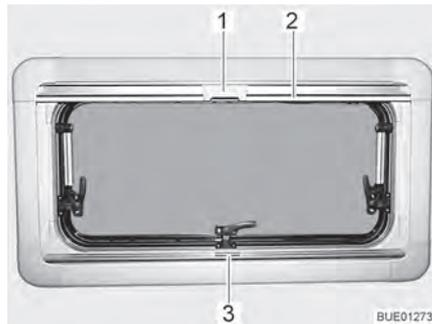
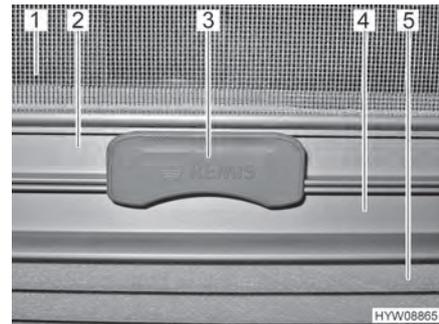

Fig. 44 Hinged window
Fig. 45 Catch
The Roman shade (Fig. 45,5) is located in the lower blind box.
- Seize the Roman shade by the centre of the holding bar (Fig. 44,3 and Fig. 45,4), pull it from the bottom to the top and release it at the desired height. The Roman shade will stay at this height.
Insect screen The insect screen (Fig. 45,1) is located in the upper blind box.
- Pull the insect screen down by the holding bar (Fig. 44,2 and Fig. 45,2), until it touches the holding bar of the Roman shade (Fig. 45,4).
- Clip the catch (Fig. 44,1 and Fig. 45,3) on the insect screen into the holding bar of the Roman shade. When the catch is locked, the Roman shade and the insect screen can be adjusted together.
- Push the catch (Fig. 45,3) on the insect screen upward.
- Move the insect screen back slowly on the holding bar (Fig. 44,2).